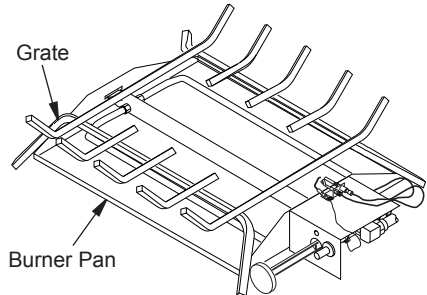

Figure 8 - Installing Grate (Pan Material Not Shown)
1. Place grate over burner pan. Grate should “lock” into place over corners of pan (see Figure 8).